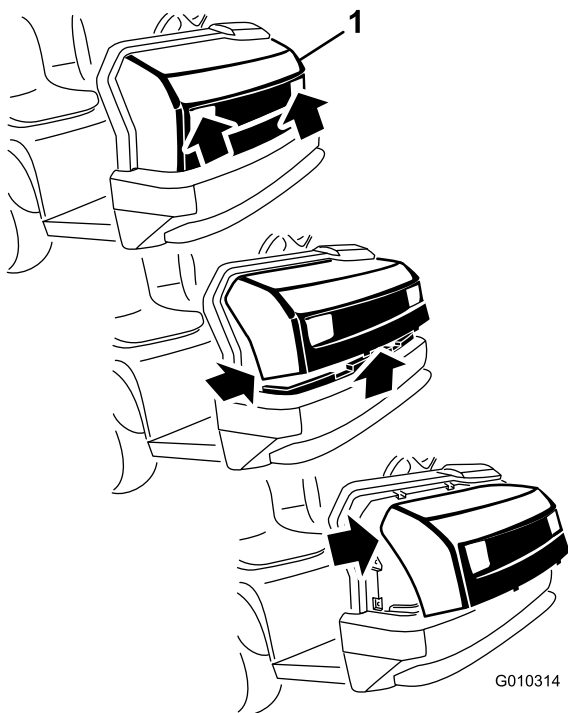

Figure 28
3. Pivot the top of the hood forward and unplug the wire connectors from the headlights (Figure 28).
2. Insert the top mounting tabs into the frame slots (Figure 28).
3. Insert the lower mounting tabs into the frame slots (Figure 28).
1. While grasping the hood in the headlight openings, lift up the hood to release the lower mounting tabs from the frame slots (Figure 28).
2. Pivot the bottom of the hood upward until you can pull the top mounting tabs from the frame slots (Figure 28).